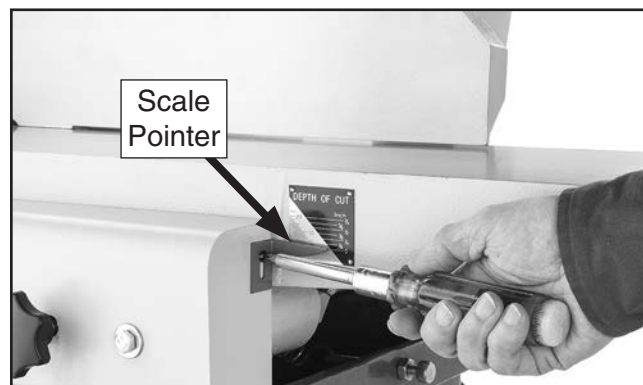

Figure 48. Adjusting scale pointer to "0".
- Precisely adjust scale pointer to "0", as shown in **Figure 48**.